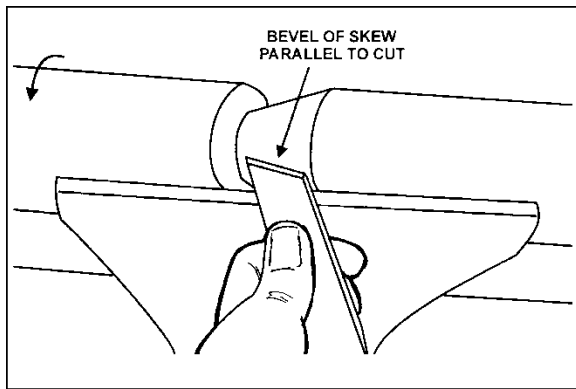

Figure 10-8: V-cuts
4. With the bevel parallel to the right side of the cut, raise the handle and push the tool in to the desired depth, as shown in Figure 10-8.